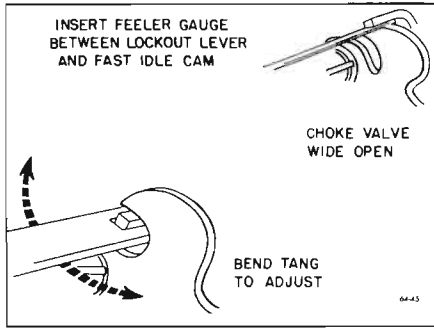

Figure 64-45—Secondary Contour Adjustment
7. Secondary Contour Adjustment. Fully open choke valve so that fast idle cam falls to its lowest position. Then open throttle so that secondary lock-out tang follows contour portion of fast idle cam. With choke held wide open, check clearance between lock-out tang and contour portion of cam. See Figure 64-45.